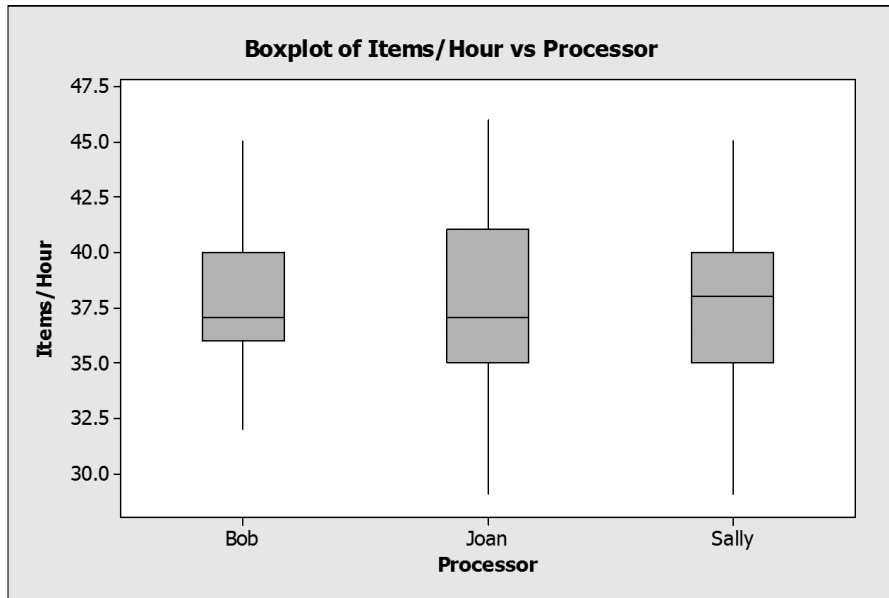

Figure 7-5:
What effect does the processor (X_4) have on the items per hour output (Y)? Figure 7-5 shows a set of box and whisker plots of Y for each condition of the X_4 input.
Again, does either Bob, Joan, or Sally have much influence on the items transacted per hour? From the graphical view in Figure 7-5, it is clear that the items transacted per hour is about the same for each operator — they have about the same average level and about the same amount of variation. This tells you that the processor variable (X_4) is not a key contributor to the output variation.
Statisticians using advanced techniques look at the data for Figure 7-5 and numerically compute the variation between the centers of variation for each of the different X_4 conditions and call this the *between group variation*. They then perform a similar calculation to quantify the average width of variation of all the conditions and call this the *within group variation*. If the between group variation is large compared to the within group variation, they conclude that the investigated variable does indeed influence the output. The graphical method outlined previously is just a simple, intuitive way to accomplish the same thing while bypassing all math and technicalities.